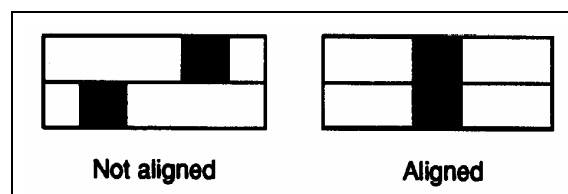

FIGURE 39: HEADLIGHT ALIGNER
5. Look through the top port hole of unit A, and turn horizontal knob until split images are aligned. See figure 39.